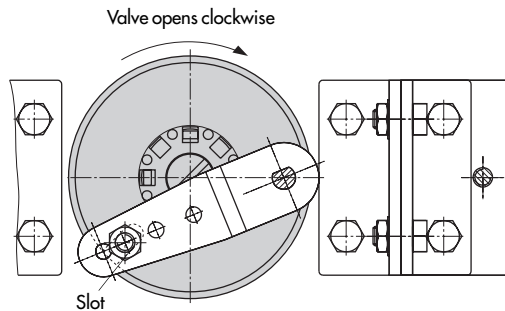

Fig. 8 · Attachment to rotary actuators
1. Place follower clamp (3) on the slotted actuator shaft or the distance piece (5).
2. Place coupling wheel (4) with flat side facing the actuator on the follower clamp (3). Refer to Fig. 8 to align slot so that it matches the direction of rotation when the valve is in its closed position.
4. Screw the two bottom brackets (10.1) with the bends pointing either to the inside or to the outside (depending on the actuator size) to the actuator case. Position top brackets (10) and screw tight.
5. Mount connecting plate (6) or pressure gauge bracket (7) with pressure gauges
6. Unscrew the standard follower pin (2) from the positioner's lever **M** (1). Use the metal follower pin ( $\varnothing 5$ ) included in the mounting kit and screw tight into the bore for pin position  $90^\circ$ .
7. Place positioner on the top brackets (10) and screw tight. Considering the actuator's direction of rotation, adjust lever (1) so that it engages in the slot of the coupling wheel (4) with its follower pin (see Fig. 8). It must be guaranteed that the lever (1) is parallel to the long side of the positioner when the actuator is at half its angle of rotation.